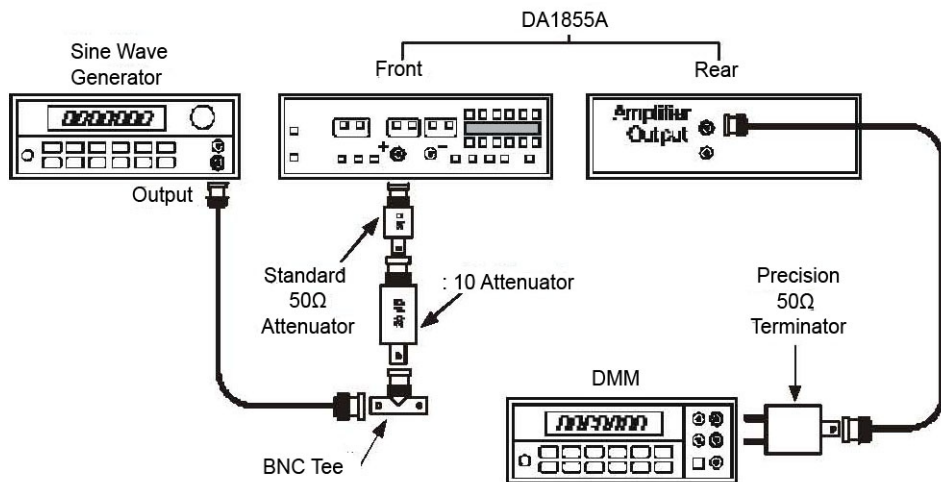

Figure 13, X10 Gain Accuracy Test Setup 4.
20. Insert the precision 50Ω termination between the other end of this cable and the input of the DMM. See Figure 13.